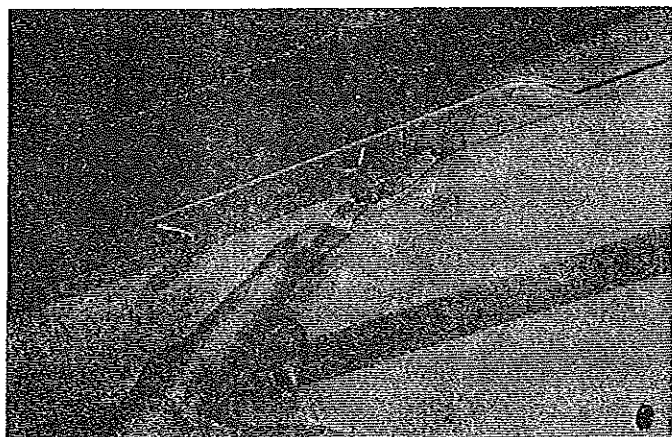
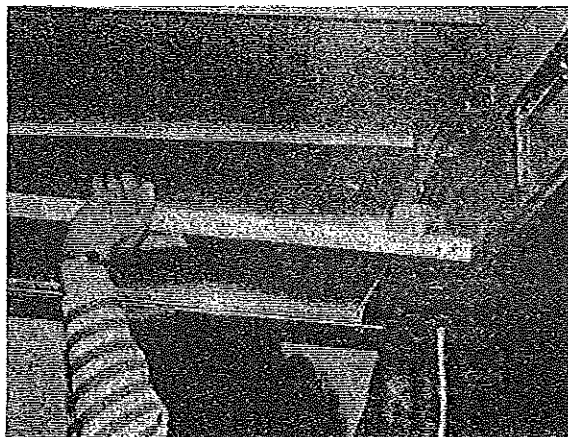

FIGURE 19
FIGURE 20
24. Standing at the door opening, pull down on the spring-loaded pin clip retaining the door frame and swivel clear of the engagement hole. See Figure 19. Step outside and, standing at the door threshold, reach up and grasp the bottom of the screen door with both hands. Raise and push the door toward the far side of the trailer to release it from its retaining brackets. See Figure 20.
25. Hold screen door up from the floor and move it toward the door opening. See Figure 20.